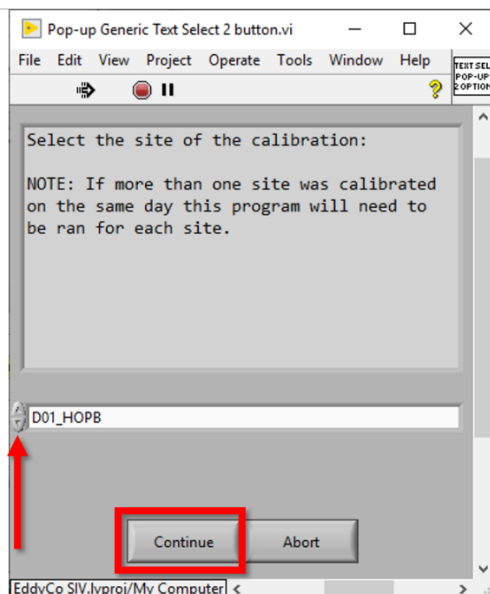

Figure 166. Select the Site of the Calibration Pop-up Window
**STEP 5** | Select the site where you conducted the Multisonde calibrations from the dropdown (Figure 166). This example uses Domain 10 ARIK.